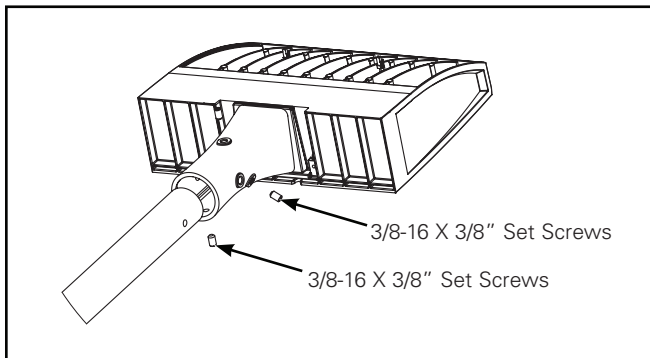
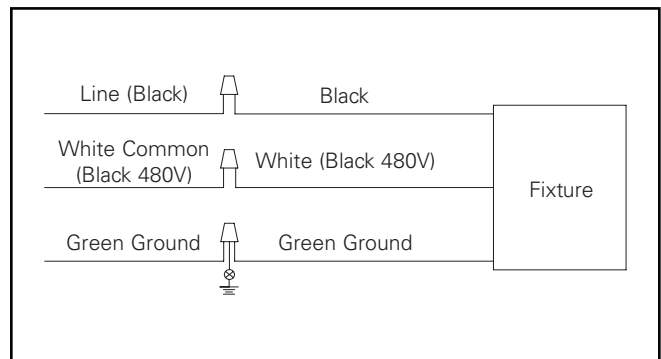

Figure 5.
Figure 7.
### Pole Mount - Mast arm option (Figure 5. - Figure 7.)
1. Slip the assembly over the mast arm (Figure 5).
4. Make wire connections inside the mounting arm. Refer to wire diagram for power connections (Figure 7). Connect the supply wires to appropriate luminaire leads.